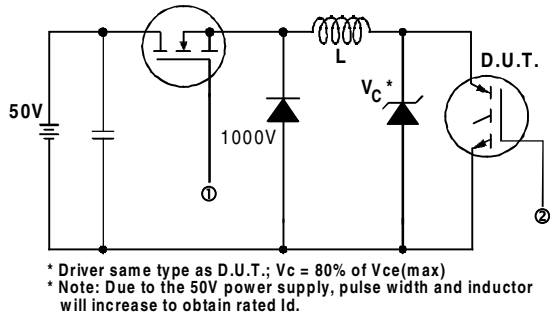

Fig. 13a - Clamped Inductive Load Test Circuit
- ② $V_{CC} = 80\%(V_{CES}), V_{GE} = 20V, L = 10\mu H, R_G = 23\Omega,$ (See fig. 13a)
- ③ Repetitive rating; pulse width limited by maximum junction temperature.
- ④ Pulse width $\leq 80\mu s$; duty factor $\leq 0.1\%$.
- ⑤ Pulse width $5.0\mu s$, single shot.